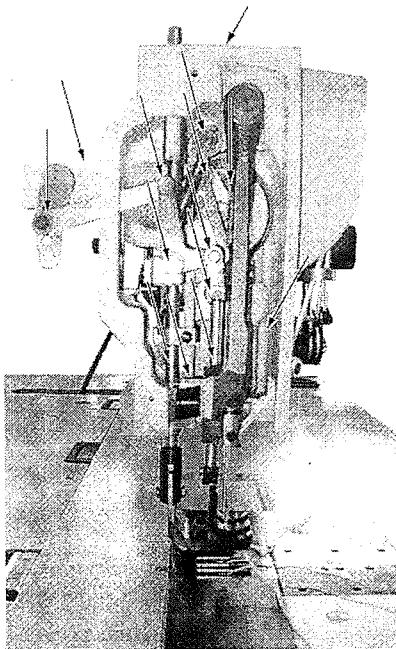

Fig.2
4. OILING (Figs. 2, 3, 4 & 5)
Oil should be applied at each of the place designated by arrows in Figs. 2, 3, 4&5.